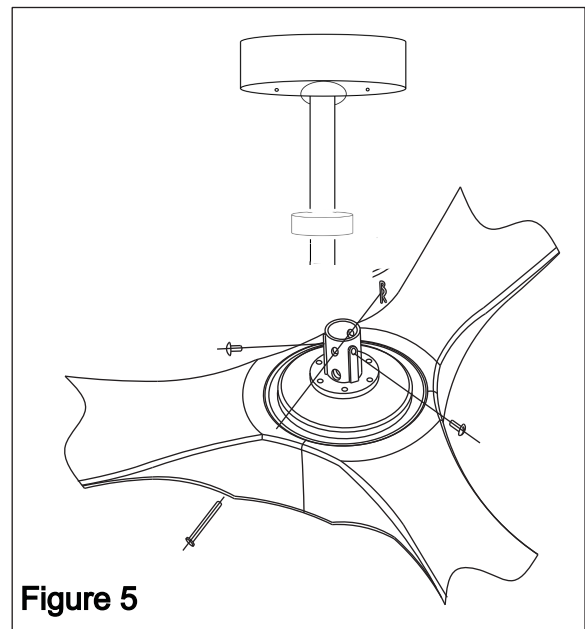

Figure 5
5. Loosen two set screws on the downrod support and then place the downrod into the downrod support. (Figure 5).